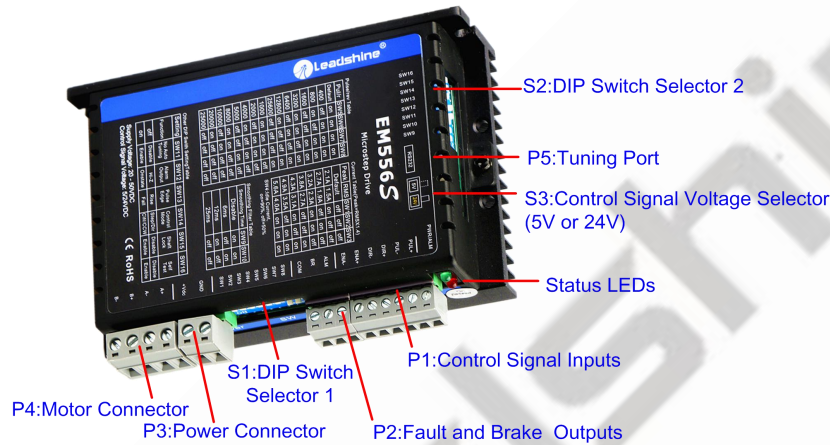

Figure 2 Connectors, DIP switches, and LED locations
DIR- (CCW-)	(4) Single pulse (step & direction) or double pulse (CW/CCW) is set by DIP Switch SW14 (5) DIR signal requires advance PUL signal minimum 5 μs in single pulse mode (6) The activated edge of PUL and DIR is set by DIP Switch SW13 (7) The factory setting of control signal voltage is 24V, must need to set S3 (figure 2) if it is 5V
ENA-	(3) ENA signal requires advance DIR signal minimum 5μs in single pulse mode (4) The default control signal voltage is 24V, to set S3 (figure 2) if it is 5V (5) Enable time to be at least 200ms
The EM556S can accept differential or single-ended control signals (pulse, direction, and enable) in open-collector or PNP connection through the P1 connector (figure 2). It is recommend to add an EMI line filter between the power supply and the drive to increase noise immunity for the drive in interference environments.
The first 8-bit is located on the side (DIP switch selector 1 in Figure 2) and used to configure settings of micro step resolution, output current, and motor standstill current as shown below, the factory setting of SW1-SW8 is **OFF, OFF, OFF, OFF, OFF, OFF, ON, ON**.
The second 8-bit DIP switch is located on the top (DIP switch selector 2 in figure 2), and used to configure settings of control command filtering time, motor auto-configuration, fault output impedance, pulse active edge, control mode, lock shaft, and self-test as shown below, the factory setting of SW1-SW8 is **OFF, OFF, OFF, ON, ON, OFF, OFF, OFF**.
The Third 1-bit selector is located on the top (DIP switch selector 3 in figure 2), used to configure the voltage of control signals. For the safety of optically coupled, the factory setting is 24V, which no need to connect 2K resistors like the old drives, making it easier to use. When the voltage of the control signal is 5V, the S3 must be set to 5V, otherwise, the motor won't work.